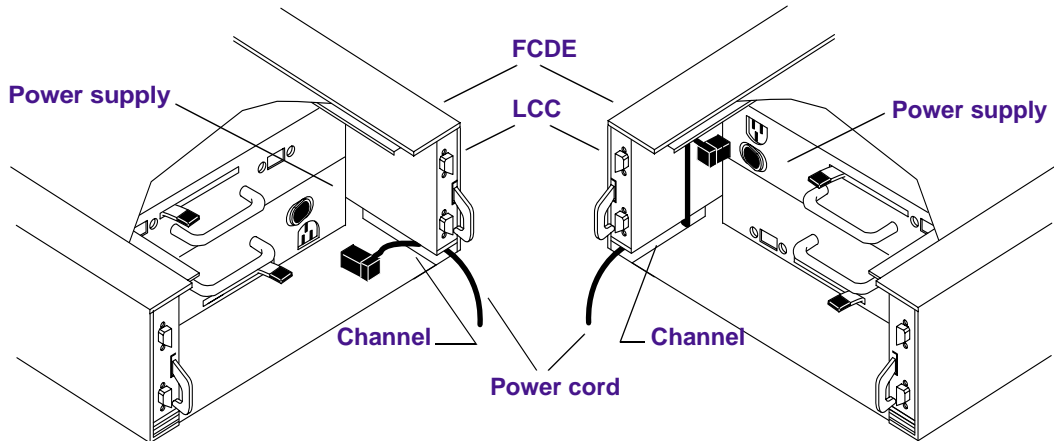

Figure 1-11 Attaching the FCDE Power Cords
4. Attach one power cord adapter to the power connector in the lower right of the bottom power supply (see Figure 1-11). Route the power cord through the channel below the LCC and out the back of the FCDE.
5. Attach the other power cord adapter to the power connector in the upper left of the top power supply (see Figure 1-11). Route the power cord down the side of the LCC to the channel below the LCC and out the back of the FCDE.